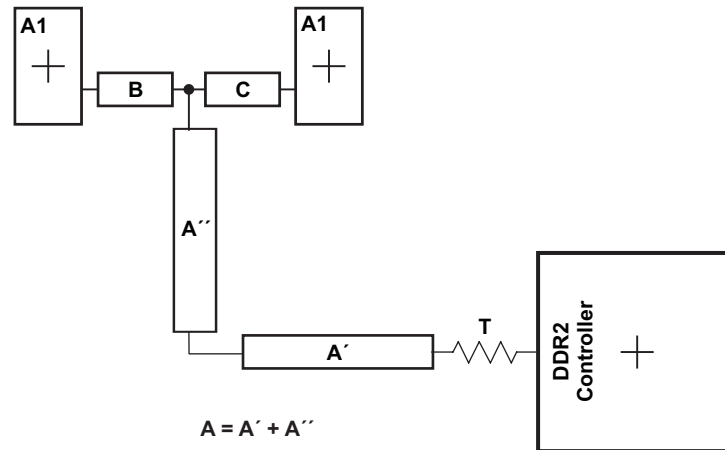

Figure 8-53. CK and ADDR_CTRL Routing and Topology
Figure 8-53 shows the topology of the routing for the CK and ADDR_CTRL net classes. The route is a balanced T as it is intended that the length of segments B and C be equal. In addition, the length of A ($A' + A''$) should be maximized.
- (1) The length of segment $A = A' + A''$ as shown in Figure 8-53.
- (2) Series terminator, if used, should be located closest to the device.
- (3) Center-to-center spacing is allowed to fall to minimum (2w) for up to 500 mils of routed length to accommodate BGA escape and routing congestion.
- (4) CACLM is the longest Manhattan distance of the CK and ADDR_CTRL net classes.